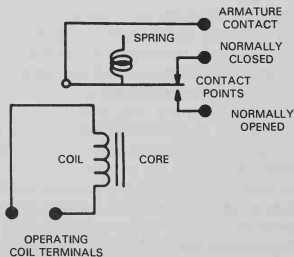

Fig. 18-18. The electrical diagram of connections to parts of the relay.
8. A sketch of the relay is drawn in Fig. 18-18 which shows the electrical connections.